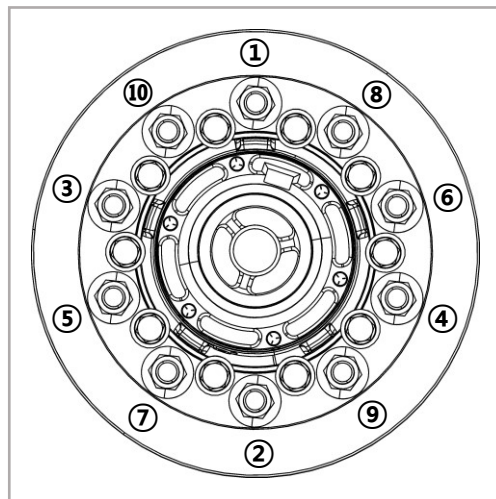

FIGURE 23. 10 Stud Tightening Sequence
▲ WARNING Always tighten the upper wheel nut first. Nut tightening order is from 1 to 10. (See Figure 23.)
6. Pre-tighten the remaining wheel nuts to 50 ft.-lbs. in sequence, then re-tighten to 450-500 ft.-lbs. Torque control equipment must be used for final tightening. (See Figure 23.)